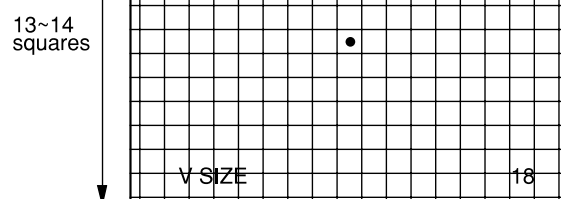

Fig. 1-3
- Use the volume keys on the jig remote controller to adjust the vertical number of squares to 13 or 14. (Fig. 1-3)